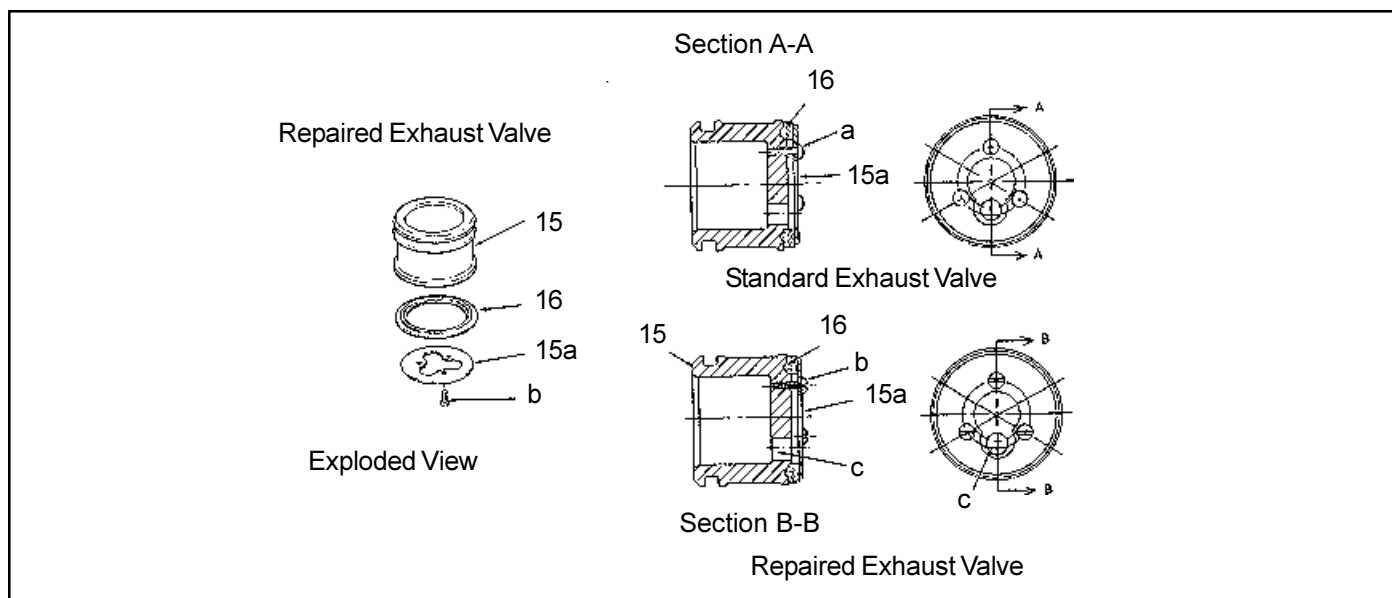

Figure 3 - Exhaust Valve
9.2.4.8.1 See Figure 3. If driven fasteners (a) are installed, use a piece of $1/16$ " diameter rod to drive out the three fasteners. **SCRAP** the fasteners. If screws (b) are installed, remove the three screws.